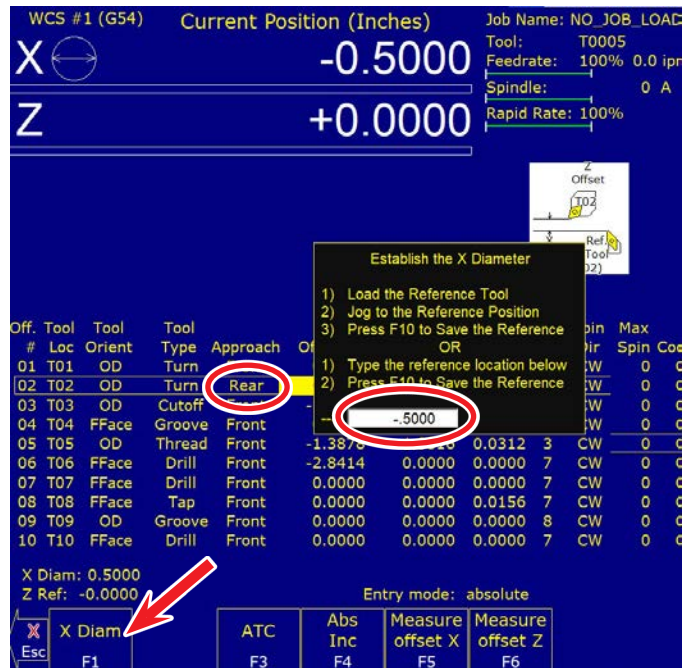

FIGURE 21
**NOTE:** This Next Set Is Very Important. When the “Establish the X Diameter” window comes up you will enter the part diameter where the tool is touching into the white box. Because tool #2 is a Rear-side tool, you will enter a negative value to define to the control which side of the part this measurement is taken from. Enter (-.5000). Then, click on Save F10 (see Figure 21).